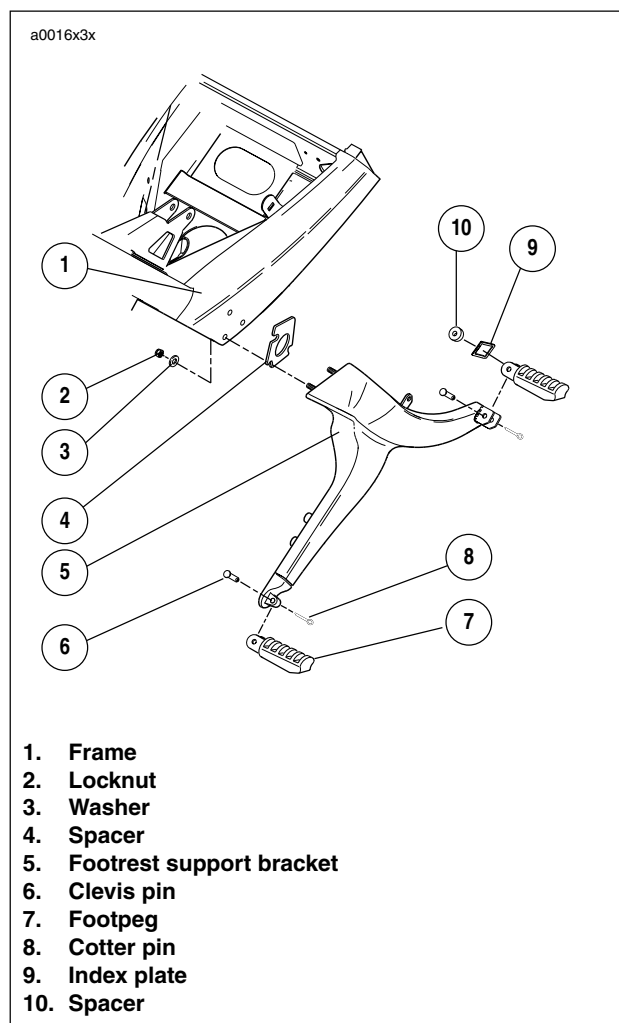

Figure 3-10. Footpeg Bracket Assembly
25. See Figure 3-10. Remove right side rider footpeg bracket assembly. See 2.21 FOOTPEGS AND FOOTPEG SUPPORT BRACKETS.